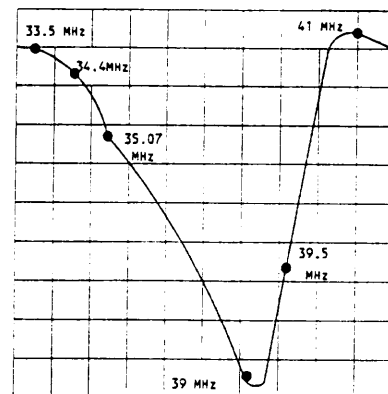

Fig 3.
Alignment Step (see fig 3)
- 2: Adjust T102 to obtain maximum amplitude of waveform and the maximum gain of 39.5 MHz as in fig 3.